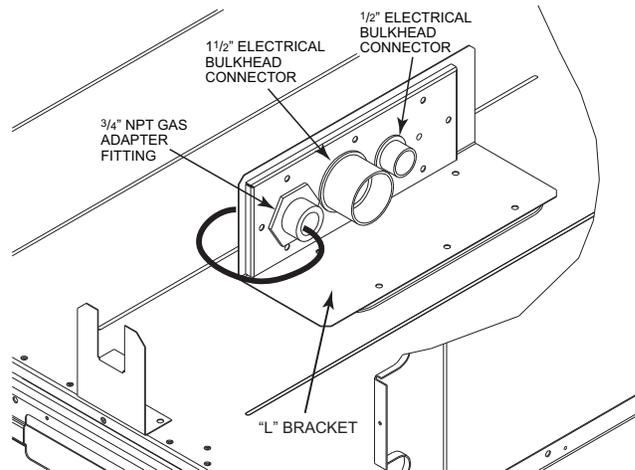

Fig. 28 — Thru-Base Connection Fittings (Size 180 Shown)
FACTORY-OPTION THRU-BASE GAS CONNECTIONS (SIZE 180) — This service connection kit consists of a 3/4-in. NPT gas adapter fitting (stainless steel), a 1/2-in. electrical bulkhead connector and a 1 1/2-in. electrical bulkhead connector, connected to an “L” bracket covering the embossed (raised) section of the unit basepan in the condenser section. See Fig. 28.
1. Remove the “L” bracket assembly from the unit (see Fig. 28).